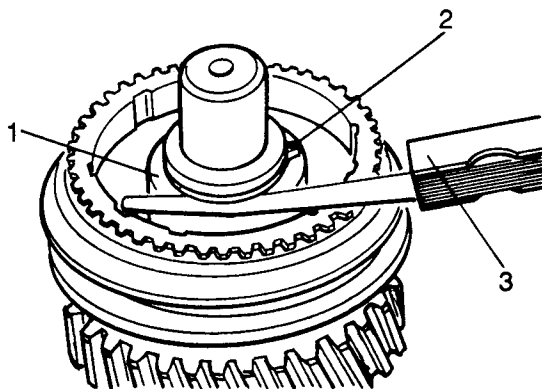

Fig H1.157
- (8) Refer to Fig H1.157. Fit the adjusting washer (1) for the complete mainshaft assembly.
- (9) Fit the circlip (2) that retains the gears together.
- (10) Measure the end float (3) of the gear train which should be between 0,10 to 0,15 mm.